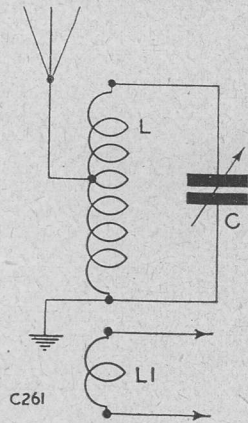

Fig. 4. Circuit for use with end-fed aerial. L is 8 turns on  $\frac{3}{8}$ " diam. L1 is 2 turns on  $\frac{3}{8}$ " diam. and C is 100 $\mu$ F
For an end-on type of aerial, Fig 4 must be used; about 8 turns of 16 SWG tinned copper wire tuned by a 100 $\mu$ F capacitor will be suitable.
Fig. 4 shows the circuits and procedure to adopt. First of all, we should try connecting a  $0.01\mu\text{F}$  capacitor between one side of the mains input and the chassis of the set, preferably using the side of
the mains that is switched. See Fig. 4(a). (If an AC/DC set is used, the  $0.01\mu\text{F}$  capacitor may be connected across the mains input.)
If this does not succeed in eliminating the mains modulation, we try *two* capacitors, as shown in Fig. 4(b). Should this not work, capacitors should be connected as shown in Fig. 4(c), between the anodes of the rectifier and chassis.
Finally, as a last resort, an  $0.01\mu\text{F}$  capacitor can be connected between the cathode of the rectifier and chassis. See Fig. 4(d).
It must be pointed out that, of the cures mentioned above and shown in the diagrams in Fig. 4, only *one* is necessary, and not a combination of two or more of the circuits shown.
The capacitors used in Figs. 4 (a)–(c) should have a working voltage of at least 750 volts, preferably 1,000 volts, owing to the strain under which they work.
These remedies should shift the most obstinate of modulation hum troubles. It may happen, however, that with a tightly coupled aerial circuit, mains modulation may be caused at “the other end” of the receiver. In this case, a filter circuit for the aerial should be tried as in Fig. 4(e) or (f), using the circuit of Fig. 4(f) only after that of Fig. 4(e) has been tried.
Fig. 4. (a-d) Methods of adding capacitors to power unit circuits to combat modulation hum. Those capacitors shown in (a) to (c) should have a working voltage of at least 750, preferably 1,000 volts. The value of the additional capacitors is  $0.01\mu\text{F}$ .
Fig. 4. (e-f) In the very occasional cases where mains modulation is caused in the aerial circuit, the addition of components as shown in (e) and (f) will cure the trouble. Value of R is 5,000  $\Omega$ . L is the aerial coupling coil. "X" is the lead originally connected to aerial terminal.
- (a) Add capacitors to receiver circuit as shown in Fig. 4 (a—d), to find which application gives relief.
- (b) Add filter circuit to aerial stage as shown in Fig. 4(e) and (f).